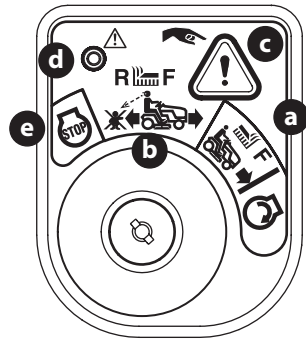

Fig. 28
2. Turn the ignition key from the NORMAL MOWING MODE (a) position to the REVERSE CAUTION MODE (b) position of the ignition switch (Fig. 28).
3. Press and hold the REVERSE CAUTION MODE BUTTON (c) at the top, right corner of the ignition module for 3 seconds. The red indicator light (d) at the top, left corner of the ignition module will be ON while activated (Fig. 28).
4. Once activated (indicator light ON), the tractor can be driven in reverse with the PTO (blade engage) lever in the engaged (ON) position.
5. Always look down and behind before and while backing up slowly to make sure no children are around. After resuming forward motion, return key to the NORMAL MOWING MODE (a) position to return to normal mowing operation (Fig. 28).
- The key is placed in either the NORMAL MOWING (a) position or STOP (e) position (Fig. 28).